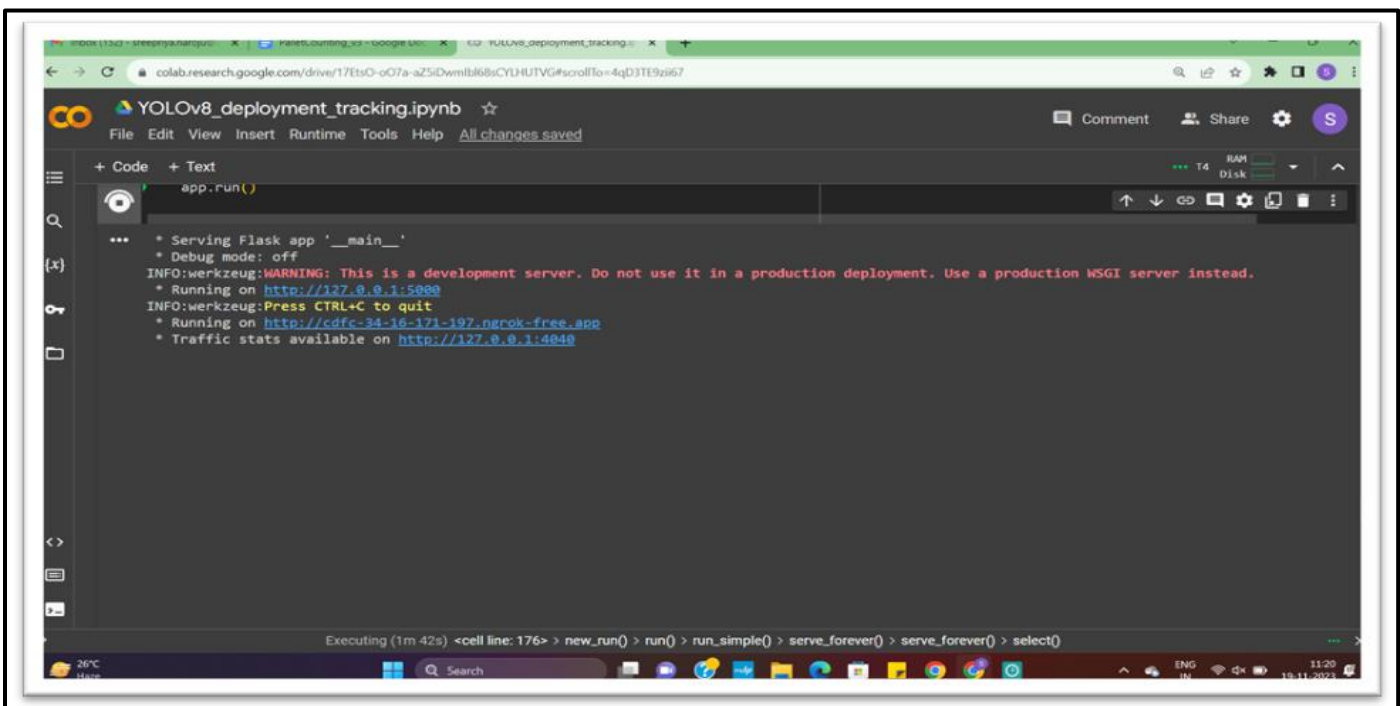

Fig 6 Running Flask Deployment Code
- Deployment is performed using the Flask framework. [Fig.6]